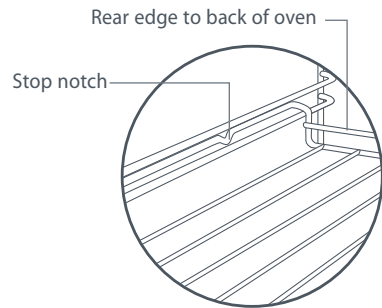

Fig. 7 Location of stop notch
- The oven shelves and the grill/roast pan have a 'stop notch' so that you do not accidentally pull them right out of the oven. Make sure you put the stop notch towards the back of the oven, as shown in Fig.7.